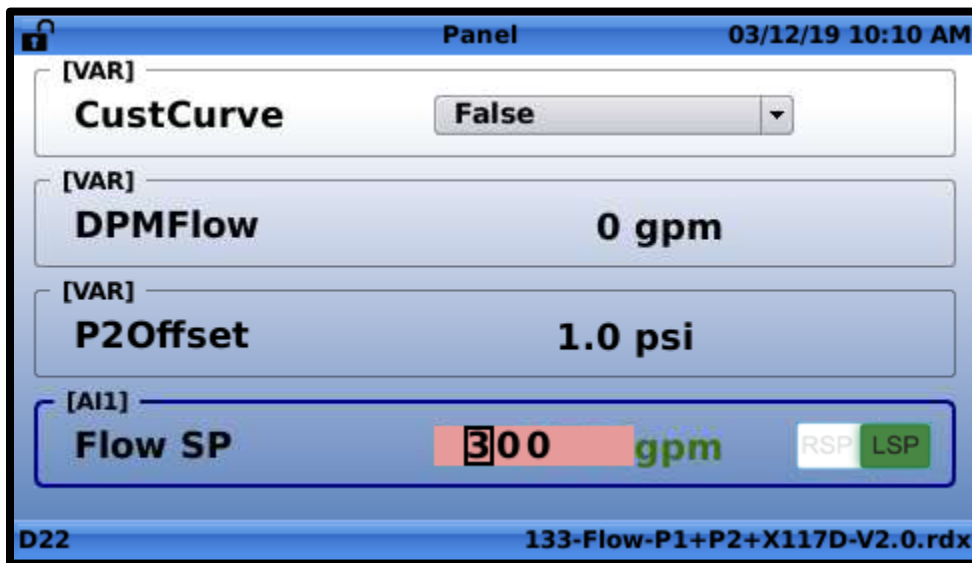

Figure 8.7
- Use the left and right navigation buttons to highlight the numerical value and press “OK”. Enter the desired numerical value as shown in **FIGURE 8.7**.